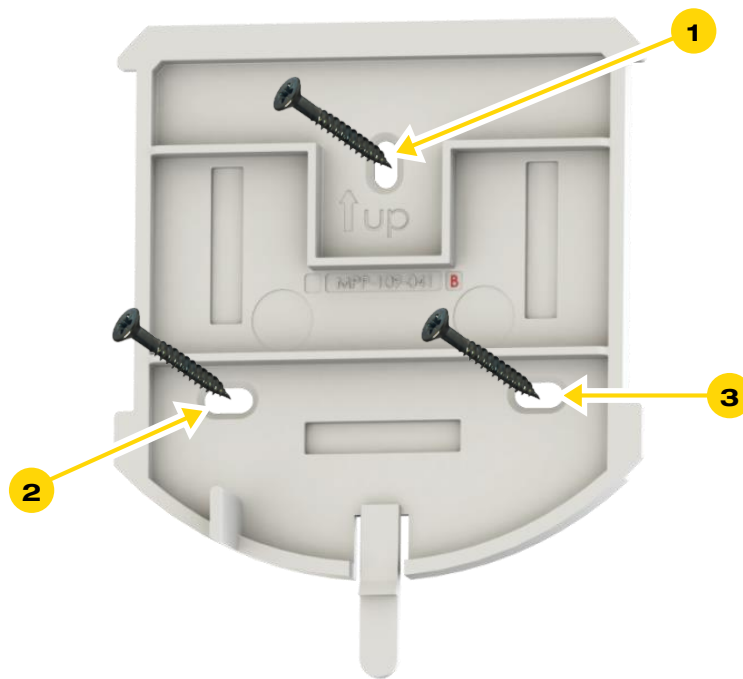

Figure 93: Indoor Siren Mounting Base with Screws
The mounting base should be disassembled from the Indoor Siren body, as demonstrated in Figure 92 above, and attached to the wall either by the double-sided tape (pre-attached to the base) or using screws as demonstrated in Figure 93 below.
1. Release the Indoor Siren mounting base by lifting the tab and sliding the base in the tab's direction as demonstrated in Figure 93 above.
2. Use a flat screwdriver to remove the punch-outs (see Figure 93 above).
4. Drill the holes; insert three (3) dowels if needed, place the base over them and screw in the three (3) screws.